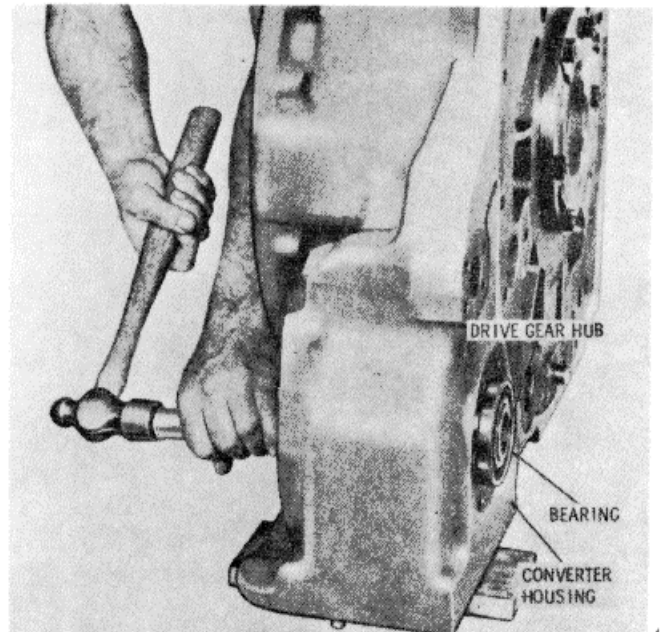

Figure 15-57. Removing Oil Pump Drive Gear Hub and Bearing
3. Using a hammer and a soft drift, tap on the oil pump drive gear hub and remove the hub and bearing (Figure 15-57). Press the hub from the bearing.